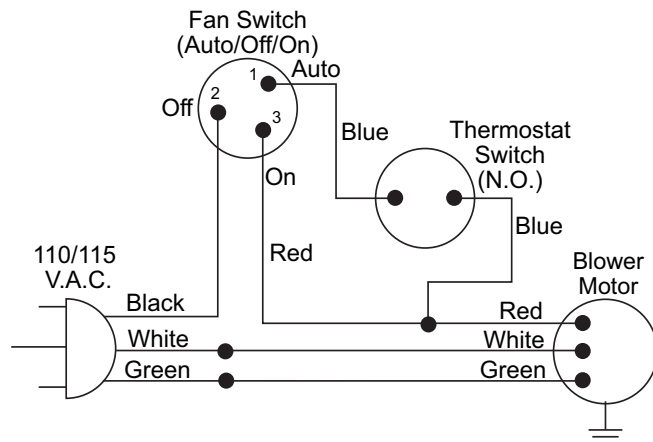

Figure 17 - Wiring Diagram For Blower Accessory Standard Installation
4. Carefully disconnect green and white wires at their insulated connectors (see **Figure 17, Page 16**).